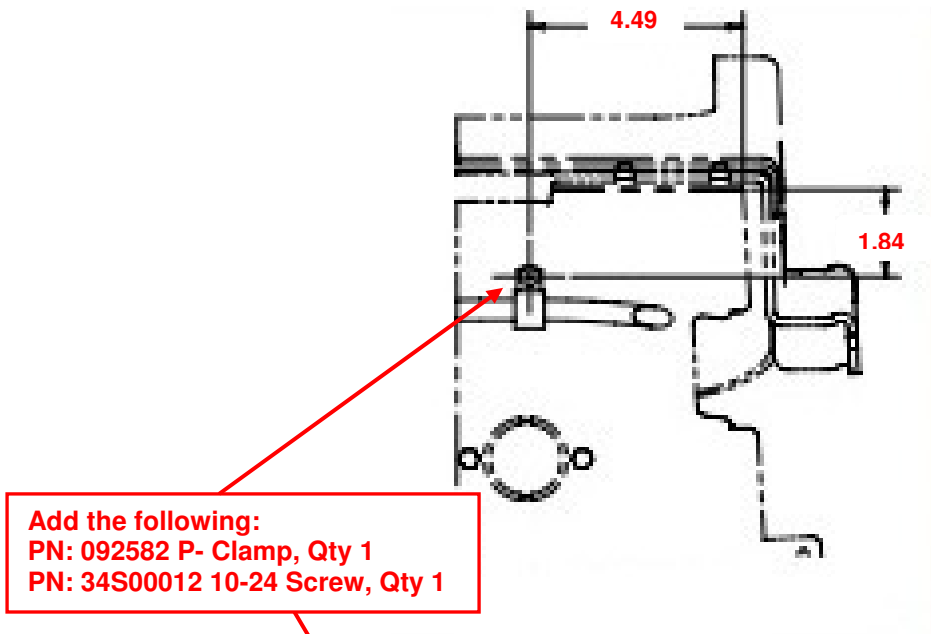

Figure 2: Location of P-Clamp to be added.
3. Locate existing tapping screw into firewall. See Figure 2.
4. Install P-Clamp PN: 092582 Qty 1 and 10-24 Screw PN: 34S0016 Qty 1, into firewall assembly, See Figure 2.